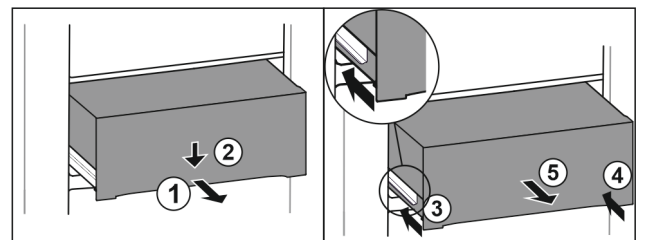

Fig. 143
- ▶ Pull out drawer half-way. Fig. 143 (1)
- ▶ Push the drawer down at the front. Fig. 143 (2)
- ▶ Push the left rail in by about 2 cm. Fig. 143 (3)
- ▶ Push the right rail in by about 2 cm. Fig. 143 (4)
- ▶ Remove drawer to the front. Fig. 143 (5)